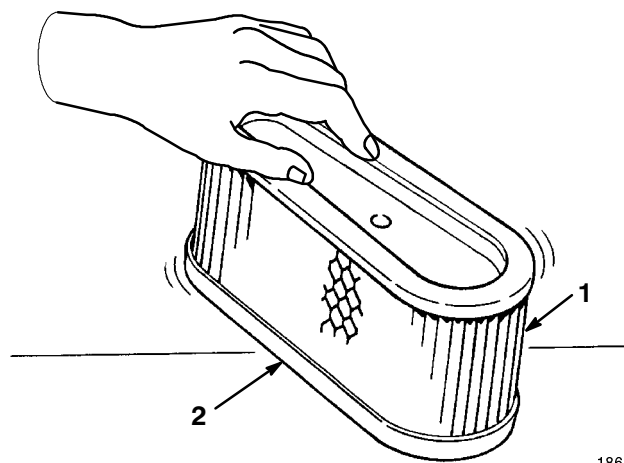

Figure 28
- A. Lightly tap the element on a flat surface to remove dust and dirt (Fig. 28).